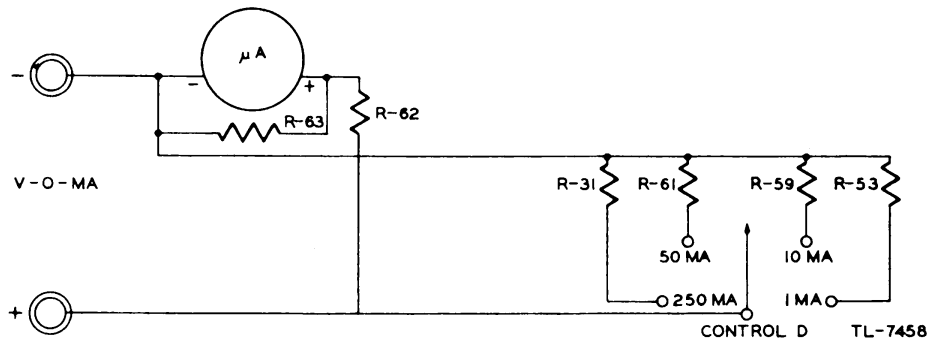

FIG. 17. MODEL 104 COMBINATION TESTER, SIMPLIFIED D-C MILLIAMMETER CIRCUIT
d. *Combination Tester as D-C Milliammeter (fig. 17).* Control D inserts the correct shunt resistor in parallel with the indicating meter, so that for each milliampere scale the proper resistor is in the circuit.